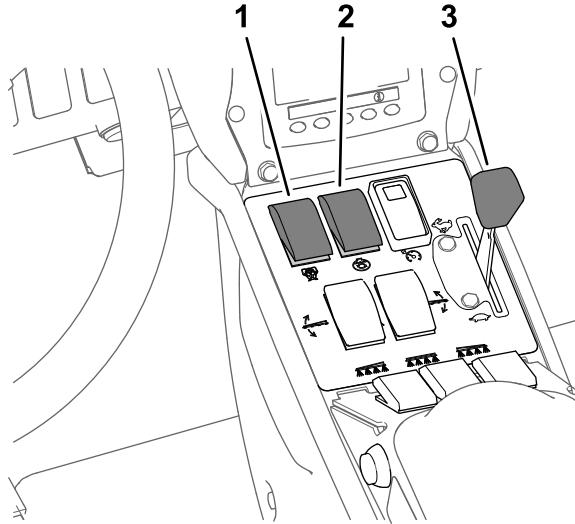

**Figure 44**
7. Set the spray section switch(es) to the ON position (Figure 44).
10. Drive at the desired speed and then set the master section switch to the ON position to begin spraying (Figure 44).
3. Set the master section switch to the OFF position; refer to Figure 44 in Spraying in the Application Rate Mode (page 37).
7. Set the individual section switches, as needed, to the ON position; refer to Figure 44 in Spraying in the Application Rate Mode (page 37).
9. Drive at the desired speed and then set the master section switch to the ON position to begin spraying; refer to Figure 44 in Spraying in the Application Rate Mode (page 37).